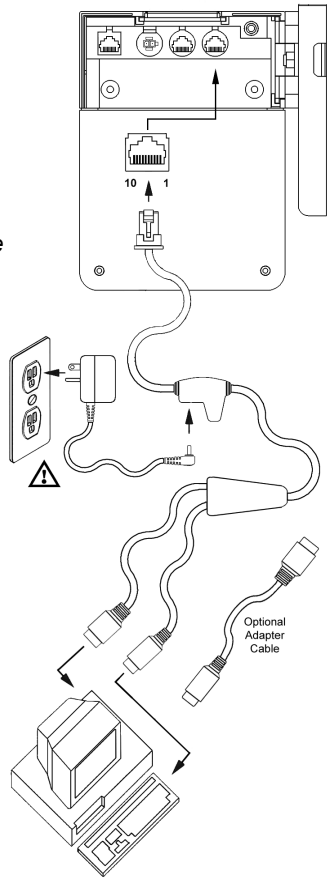

Figure 2: Keyboard Wedge Interface
4. Connect the PowerLink cable to the 10-pin KBW interface jack. It is the 2nd round opening from the left side of the MS7220 (see figure 2).